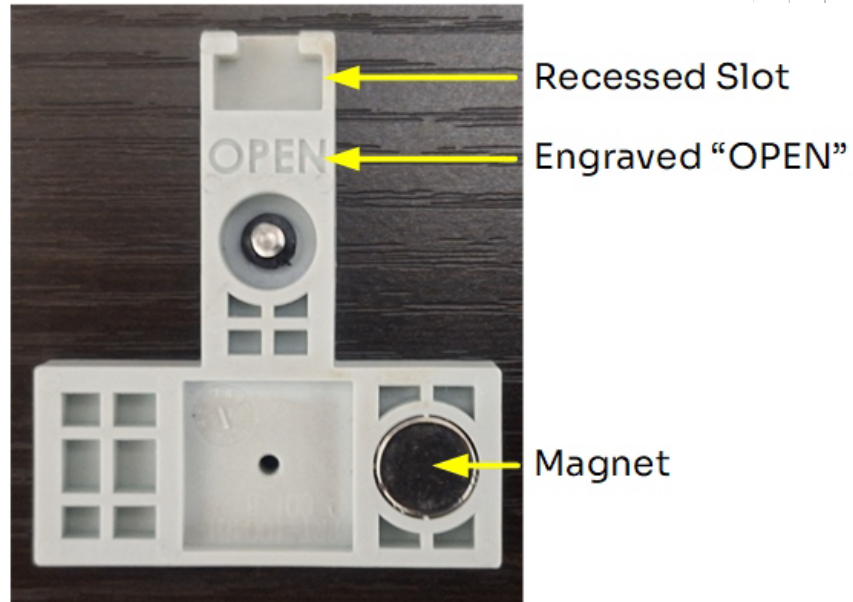

Figure 39. Features of the Manual MID Override Switch Cover. The cover also functions as a tool to activate the Manual MID Override Switch.
5. Turn over the t-shaped cover and note its features as shown in Figure 39 below. The cover functions as a tool to actuate the MID Override Switch.